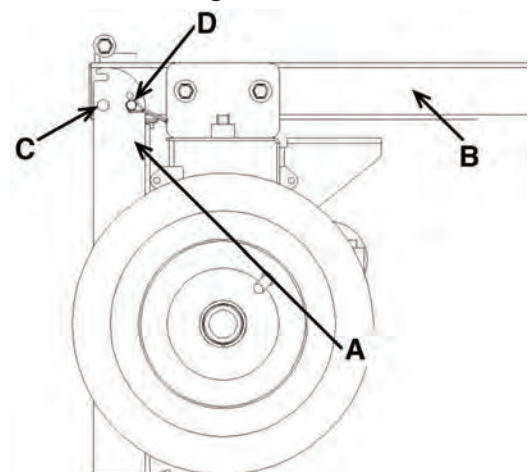

Figure 4
- 4) Connect the remaining outrigger leg (A) Fig.4 to the back of towbar (B) using a hex. bolt and a nylon hex. nut (C) (already in place).
- 6) Insert locking pin (D) to lock outrigger leg in vertical position. The next step requires the outrigger leg to be locked in vertical position as shown (Fig.4).